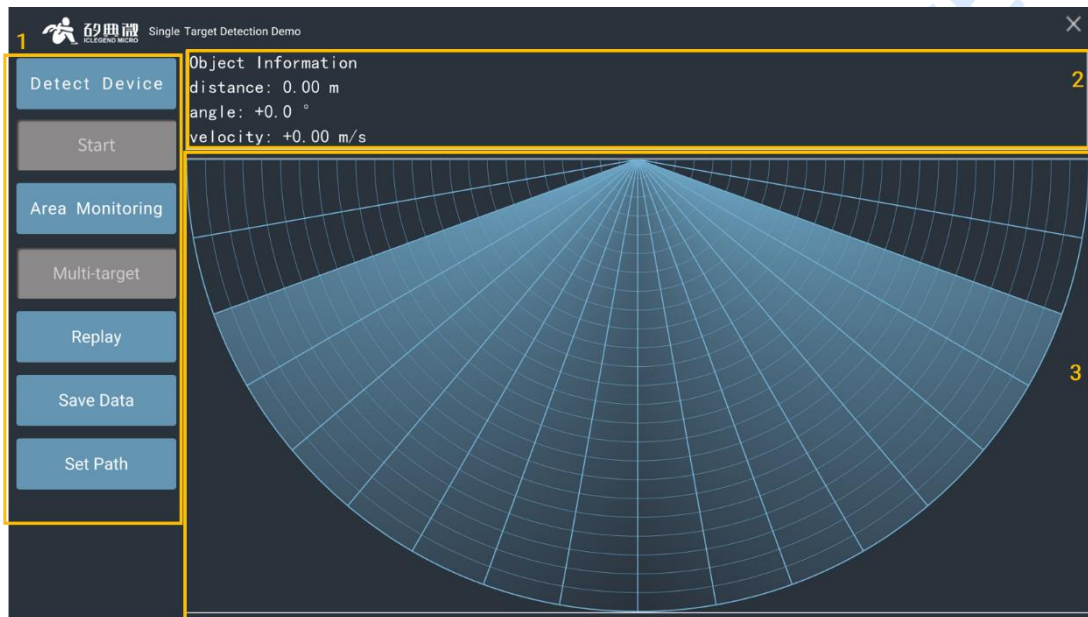

Figure 4-4 GUI of XenP202TT series designs
Step 3: Double click the `ICLM_MTT.exe` in the software directory, and the graphic user interface (GUI) will appear as shown in Figure 4-4.